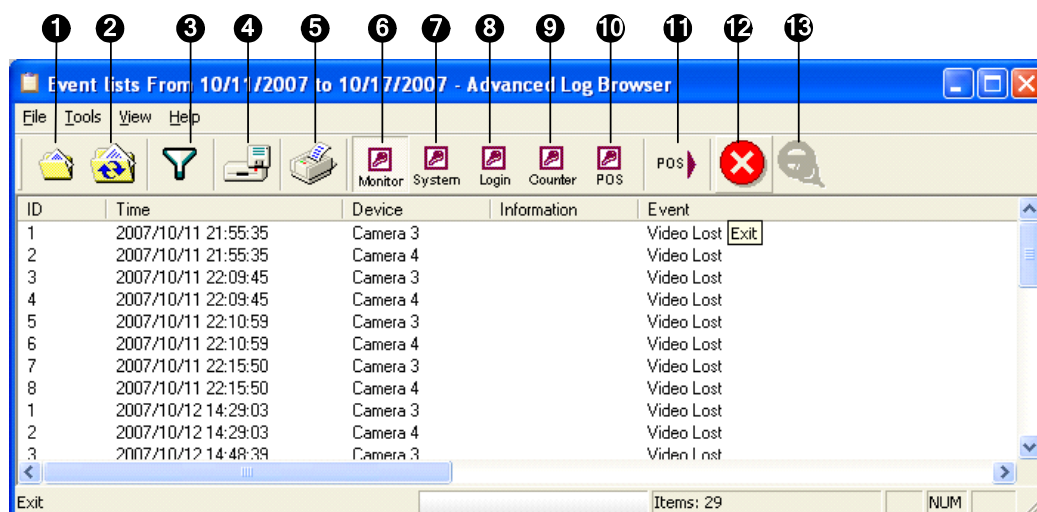

Figure 4-30 Advanced Log Browser
1. On the toolbar, click the desired log table button (Monitor, System, Login, Counter or POS), click the **Filter** button (No. 3, Figure 4-30), and select **Default Filter**. This dialog box appears.
Quick Search is a very useful tool for searching and playing back POS events. In Advanced Log Browser (Figure 4-30), double-click any POS event in the POS table. The Quick Search window will appear. The following figure and table give you an overview on Quick Search's features and functional buttons.